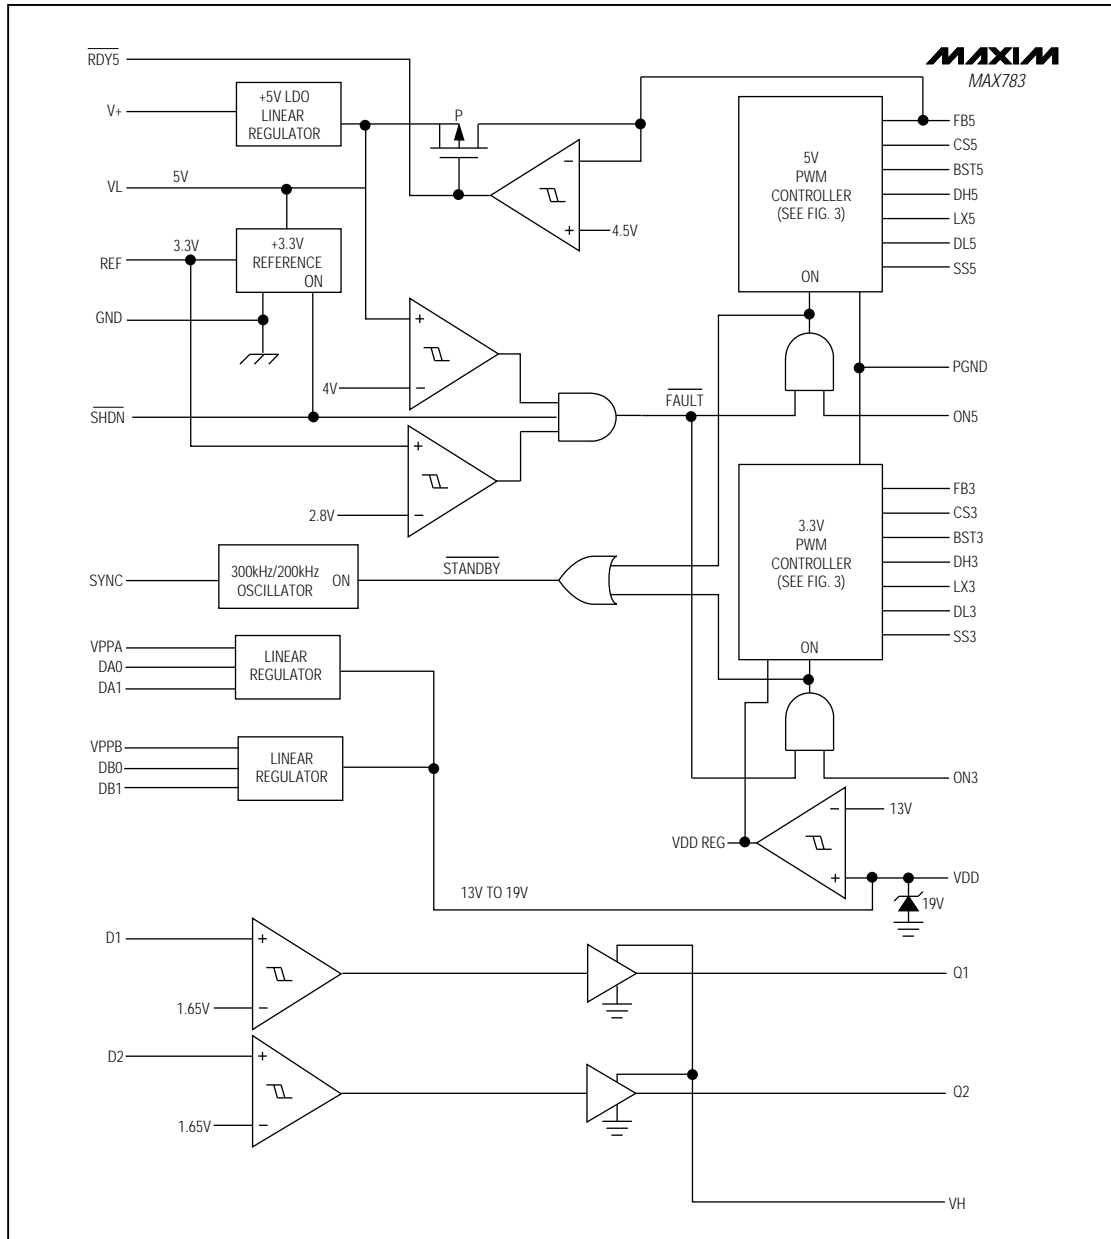

Figure 2. Block Diagram
The MAX783 converts a 5.5V to 30V input to six outputs (Figure 1). It produces two high-power, PWM switch-mode supplies, one at +5V and the other at +3.3V. The two supplies operate at either 300kHz or 200kHz, allowing for small external components. Output current capability depends on external components, and can exceed 6A on each supply. Two 12V VPP outputs, an internal 5V, 25mA supply (VL) and a 3.3V, 5mA reference voltage are also generated via linear regulators (Figure 2). Fault-protection circuitry shuts off the PWM and high-side supply when the internal supplies lose regulation.